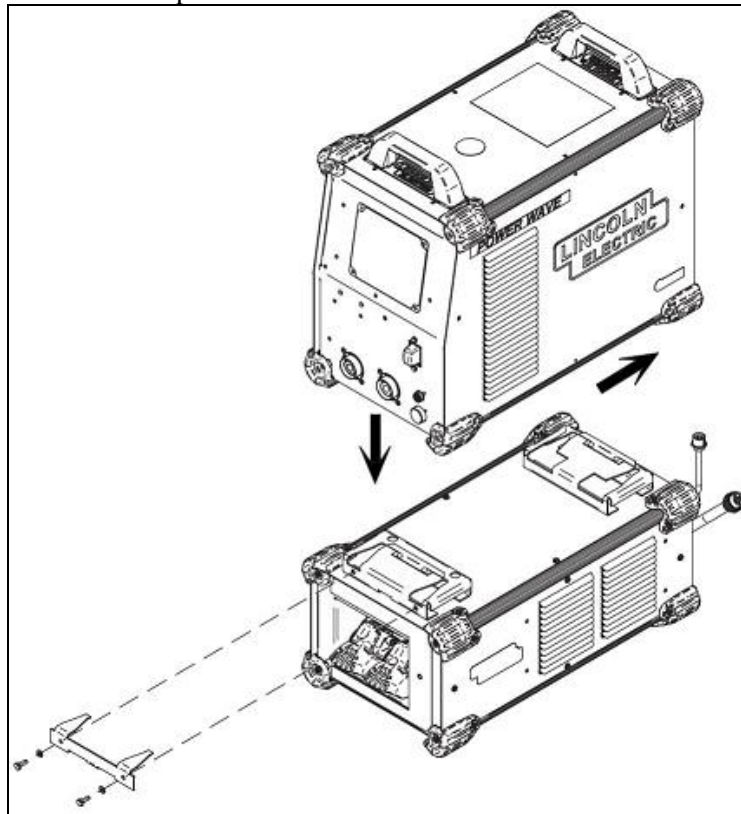

Fig. 11 (e) Connection of welding power supply Power Wave R350, Power Wave S350, Power Wave R500 and Expansion module (1/4)
- 2 Connect welding power cable (+), (-), wire feeder control cable and communication cable and sense lead to welding power supply referring to Fig. 11 (f), (g) and (h).